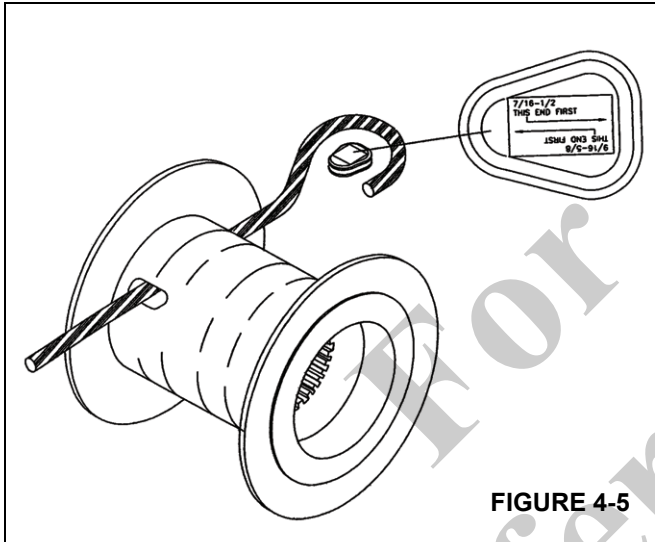

FIGURE 4-5
2. Install the end of the cable into the hoist using the wedge socket provided (Figure 4-5).